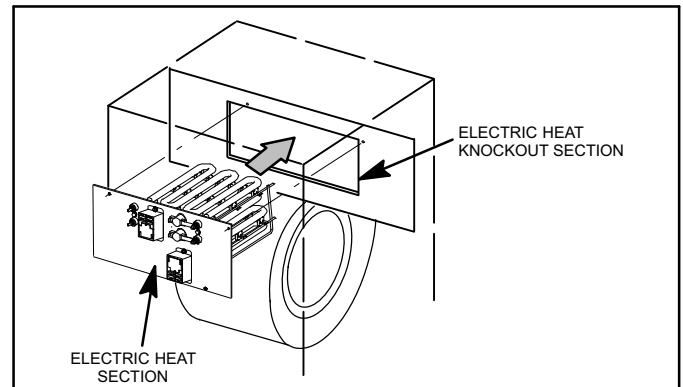

Figure 3. Electric Heat Section Installation
6. Slide the electric heat section into the air handler as illustrated in figure 3. Be careful that the heating elements do not rub against the sheet metal opening when they slide into the air handler. The hole(s) on each side of the heater line up with holes in the air handler control box. Secure the electric heater into place with the screws that are provided in the bag assembly.